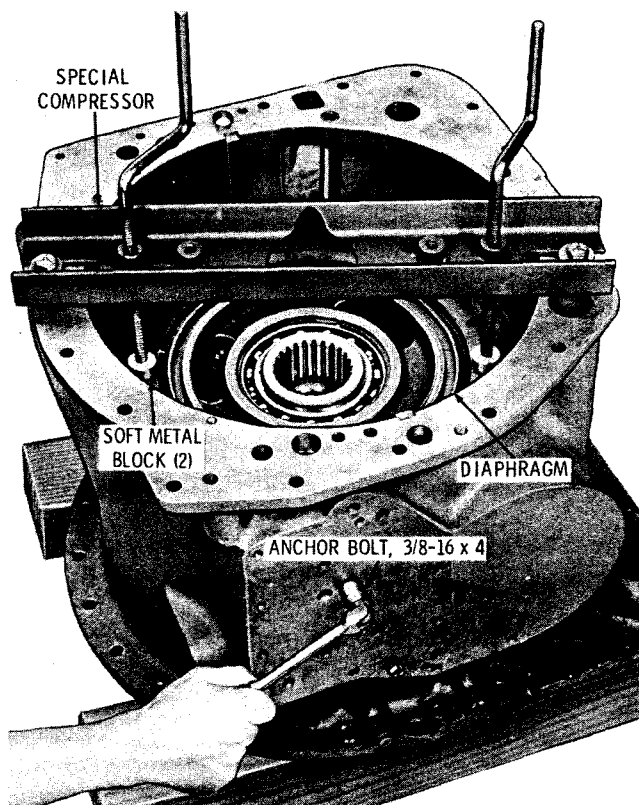

Fig. 7-19. Installing diaphragm anchor bolt
(23) Install the special compressor (refer to para 4-3a), using soft metal blocks under each compressor screw (fig. 7-19). Tighten the compressor screws evenly until all range clutch components are firmly seated.
(24) Install the 3/8-16 x 4-inch anchor bolt, with lock washer (fig. 7-19). Tighten the bolt to 26 to 32 pound feet torque. Then loosen it 1 to 2 turns. Remove the special compressor and soft metal blocks.